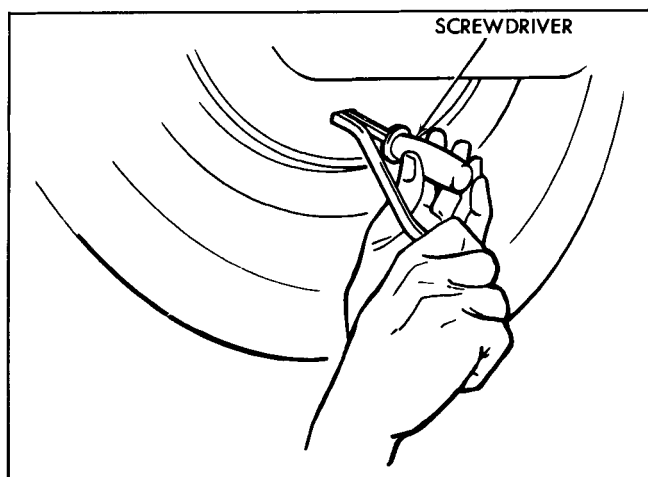

Fig. 5-12 Preparing to Back Off Adjusting Screw
1. Remove wheels and brake drums. It may be necessary to back off the brake shoe adjustment before the brake drums can be removed. If this is the case, insert a small rod or screwdriver through the adjusting screw slot in the backing plate and hold automatic adjuster lever away from adjusting screw star wheel and rotate adjusting screw downward (Fig. 5-12 and 5-13). On rear brake drums on A, B and F Series vehicles, it will be necessary to knock out the lanced area in the web of the backing plate using a chisel or similar tool in order to gain access to the adjusting screw on rear wheel brake assemblies.
insert a small rod or screwdriver through the adjusting screw slot in the backing plate and hold automatic adjuster lever away from adjusting screw star wheel and rotate adjusting screw downward (Figs. 5-12 and 5-13). Also, see step 1 and **CAUTION** note under **ADJUSTMENT**.